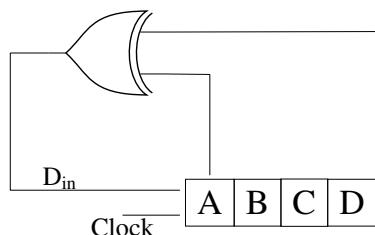

Fig. 5.16
16. A 4-bit shift register circuit configured for right-shift operation, i.e. $D_{in} \rightarrow A, A \rightarrow B, B \rightarrow C, C \rightarrow D$, is shown in Fig. 5.16. If the present state of the shift register is $ABCD = 1101$, the number of clock cycles required to reach the state $ABCD = 1111$ is _____. (GATE EC 2017)